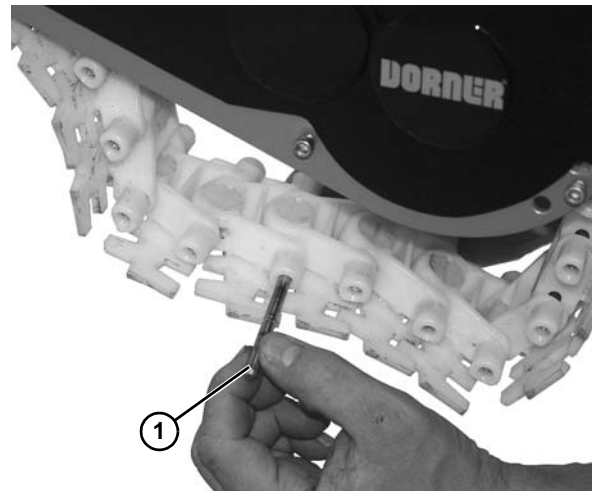

Figure 53
1. Use a punch and hammer or belt removal tool #203480 to push the belt rod (Figure 53, item 1) out by striking the rod end.